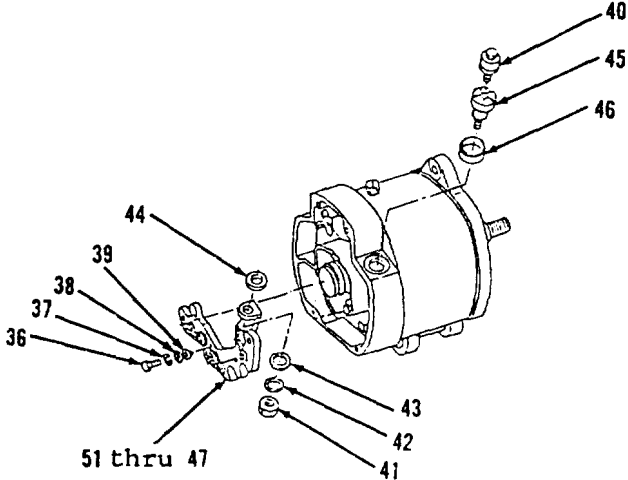
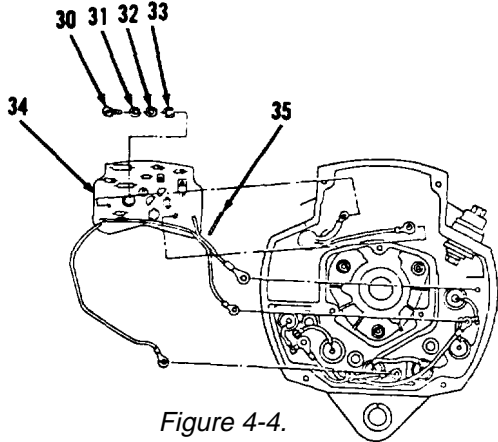

Figure 4-5.
Figure 4-4.
- 34. Position items 51 thru 47 as an assembly (Figure 4-5).
- 35. Install three insulators (39), washers (38), lockwashers (37) and bolts (36) loosely.
- 36. Tighten nut (41). Stud (45) must be properly seated.
- 37. Tighten three bolts (36).
- 38. Install new gasket (46), stud (45), new gasket (44), washer (43), lockwasher (42), nut (41) and stud (40) loosely.
- 39. Install insulator (35, Figure 4-4).
- 40. Position regulator (34).
- 41. Install three washers (33), two lockwashers (32 and 31) and screws (30).